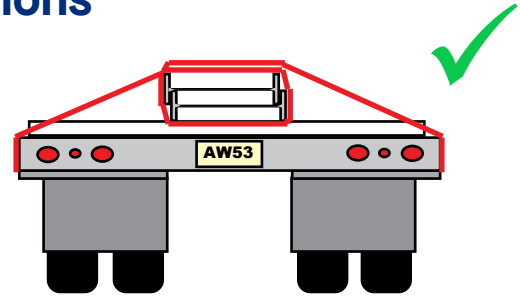

Fig 5.1 Belly wrapping is required where loads are low on the deck and ordinary “over the top” chains will not provide enough downward clamping.
- ✓ Belly wrapping can only be used on single stacks where the lashing angle is 30 degrees or less. (See Fig 5.1).